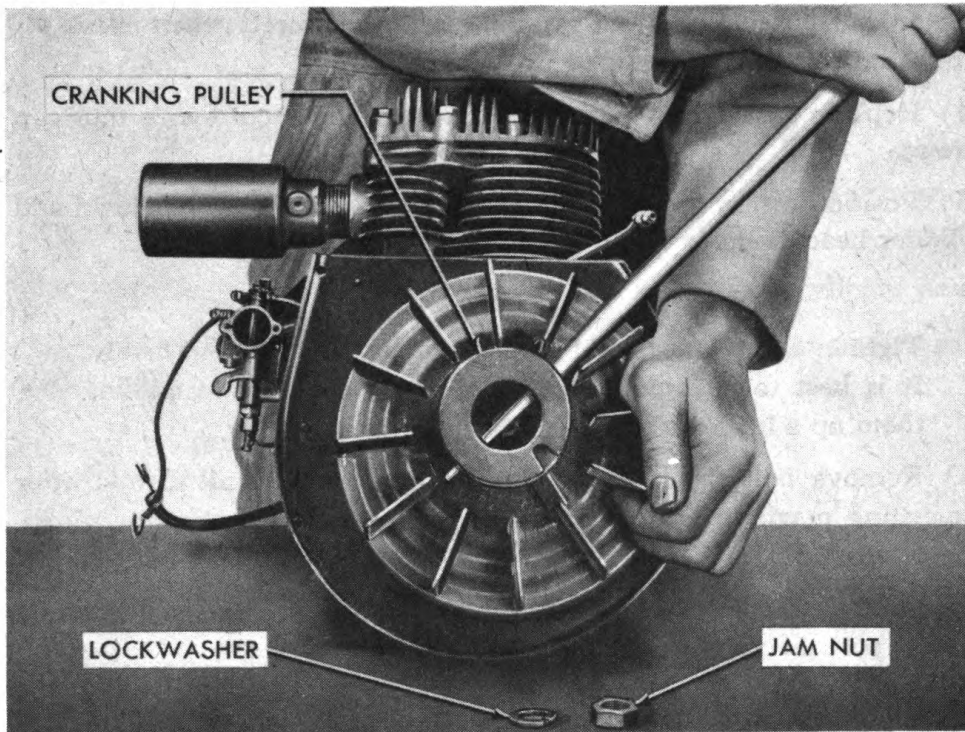

Figure 29—Removing Cranking Pulley
- (9) Remove the cranking pulley jam nut and lock washer.
- (10) Unscrew and remove the cranking pulley as shown in figure 29.
- (11) Loosen the flywheel by tapping the end of crankshaft with a soft hammer; then remove the flywheel.
- (12) Remove two screws, lock washers, and flat washers attaching magneto stator plate to engine. Remove magneto being careful not to damage stator plate.
- (13) Lift off flywheel drive key spring washer, and remove magneto breaker.